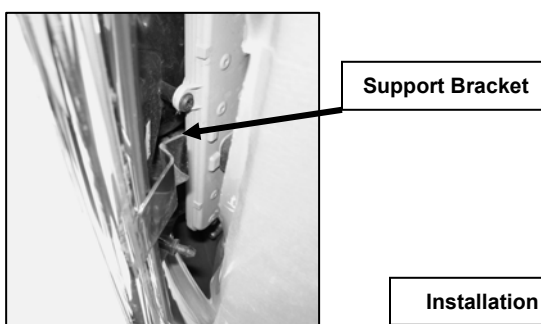

Figure 2
5. Once you have partially removed the taillight assembly, carefully engage the Taillight Guard from the top of the taillight housing (**Figure 2**). **NOTE:** You do not need to disconnect the wire harness.